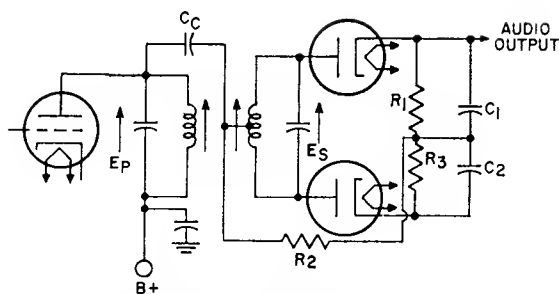

Fig. 30—Balanced phase-shift discriminator circuit.
The faults of the simple circuit are overcome in a push-pull arrangement, such as that shown in Fig. 30, called a **balanced phase-shift discriminator**. In this detector, the mutually coupled tuned circuits in the primary and secondary windings of the transformer T are tuned to the center frequency. A characteristic of a double-tuned transformer is that the voltages in the primary and secondary windings are 90 degrees out of phase at resonance, and that the phase shift changes as the frequency changes from resonance. Therefore, the signal applied to the diodes and the RC combinations for peak detection also changes with frequency.
Because the discriminator circuit shown in Fig. 30 uses a push-pull configuration, the diodes conduct on alternate half-cycles of the signal frequency and produce a plus-and-minus output with respect to zero rather than with
One disadvantage of the balanced phase-shift discriminator shown in Fig. 30 is that it detects audio modulation (AM) as well as frequency modulation (FM) in the if signal because the circuit is balanced only at the center frequency. At frequencies off resonance, any variation in amplitude of the if signal is reproduced to some extent in the audio output.
The dc circuit of the ratio detector consists of a path through the secondary winding of the transformer, both diodes (which are in series), and resistors R_1 and R_2 . The value of the electrolytic capacitor C_3 is selected so that the time constant of R_1 , R_2 , and C_3 is very long compared to the detected audio signal. As a result, the sum of the detected voltages ($E_1 + E_2$) is a constant and the AM components on the signal frequency are suppressed. This feature of the ratio detector provides improved AM rejection as compared to the phase-shift discriminator circuit shown in Fig. 30.
insensitive to amplitude variations in the FM signal. In this circuit, E_p is added to $E_s/2$ through the mutual coupling M_2 (this voltage addition may be made by either mutual or capacitive coupling). Because of the phase-shift relationship of these voltages, the resultant detected signals vary with frequency variations in the same manner as described for the phase-shift discriminator circuit shown in Fig. 30. However, the diodes in the ratio detector are